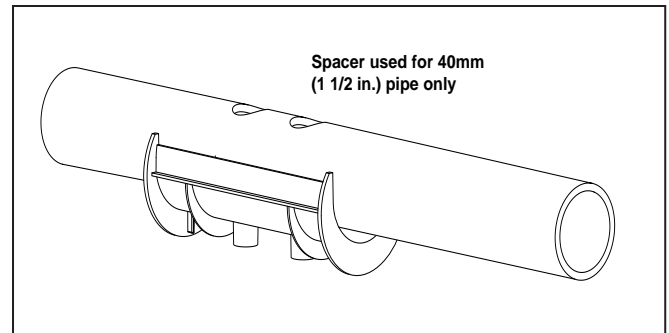

Figure 8. Pipe Spacer
8. Use the pipe spacer as shown if mounting on a 40 mm (1½ in.) pipe (see Figure 8).